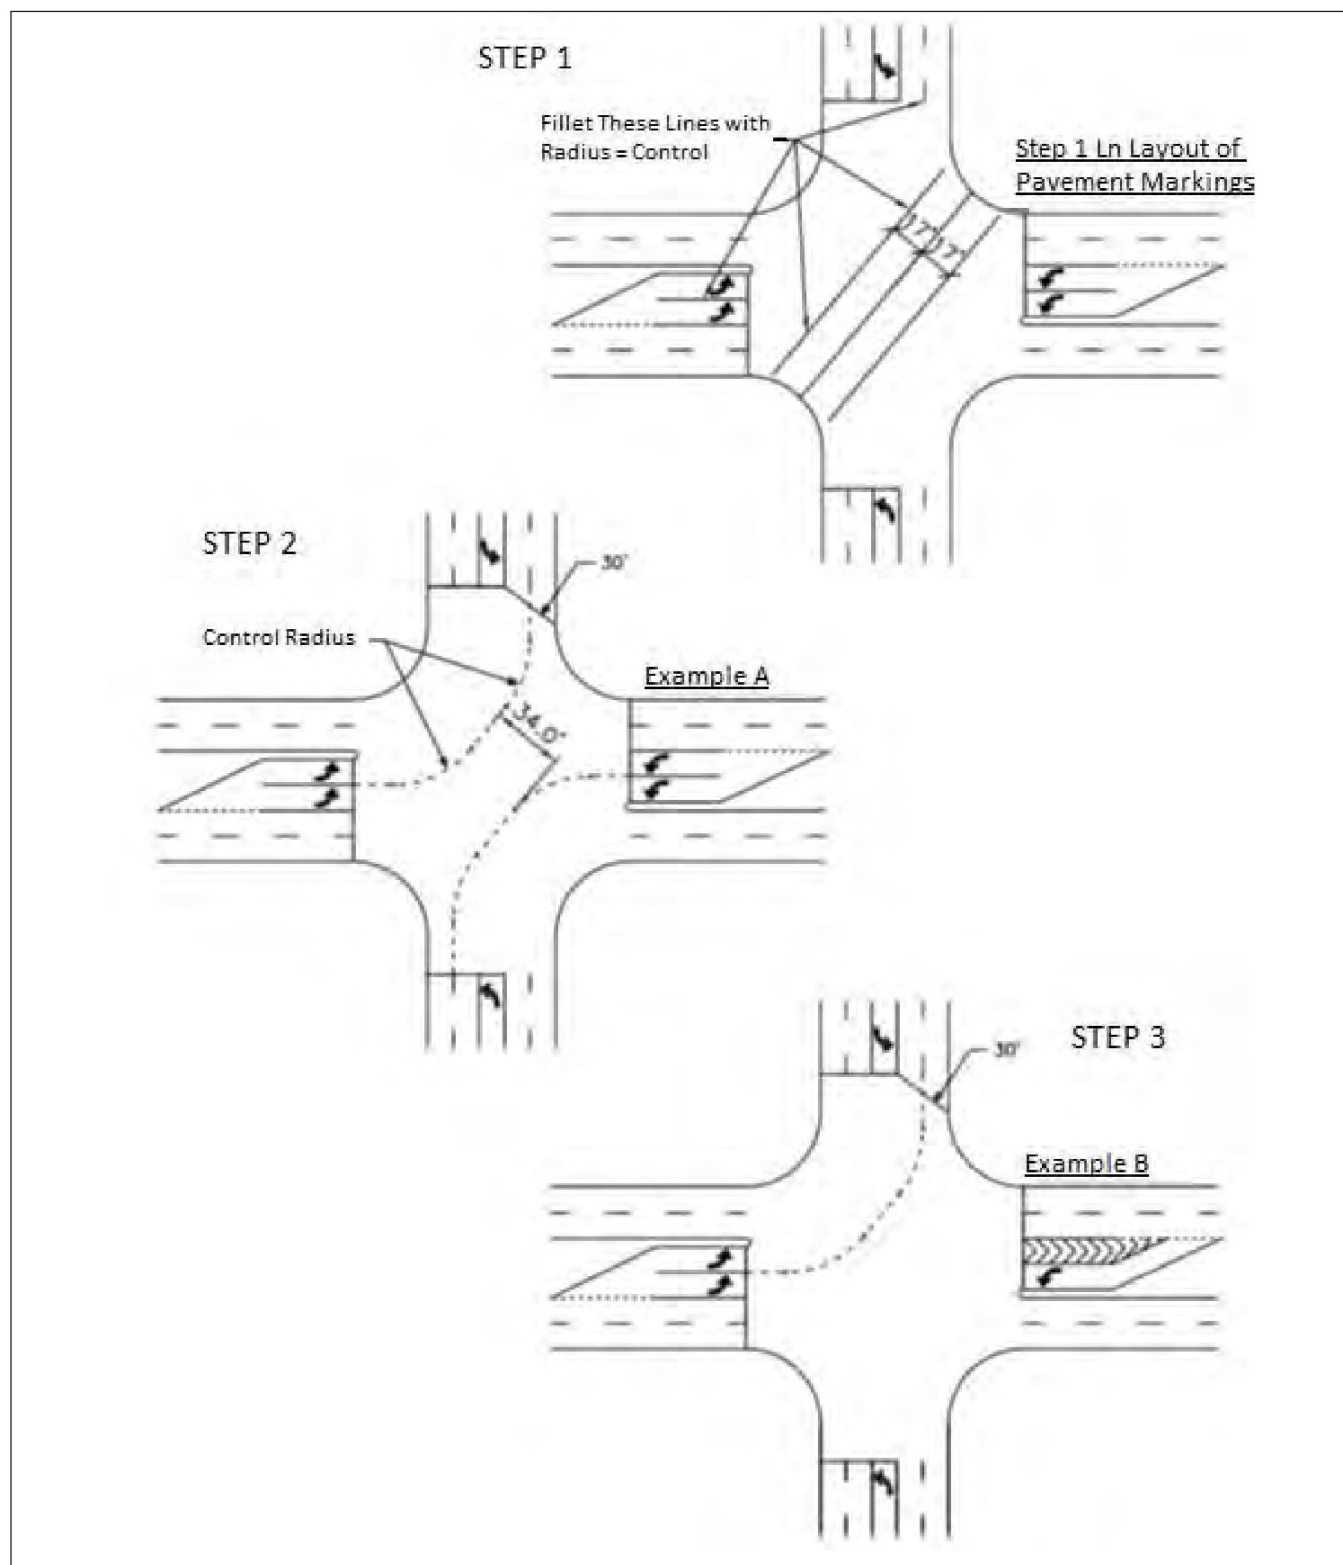

Figure 4-8 Design of Dual Left Turn Lanes
- The design should be checked to ensure that conflicts are minimized between opposing left turn maneuvers. Figure 4-8, Example "A" shows an optional layout of marking for opposing dual left turn lanes. This layout provides an additional 10' of width for the inside left turns to pass.
- When dual left turn lanes are located opposite from an approach that does not have a dual left turn lane, the design should minimize the lateral offset for vehicles traveling straight through the intersection. This can be accomplished by providing a median or striped-out area opposite the dual left turn lane. See Figure 4-8, Example "B" as an option of design.